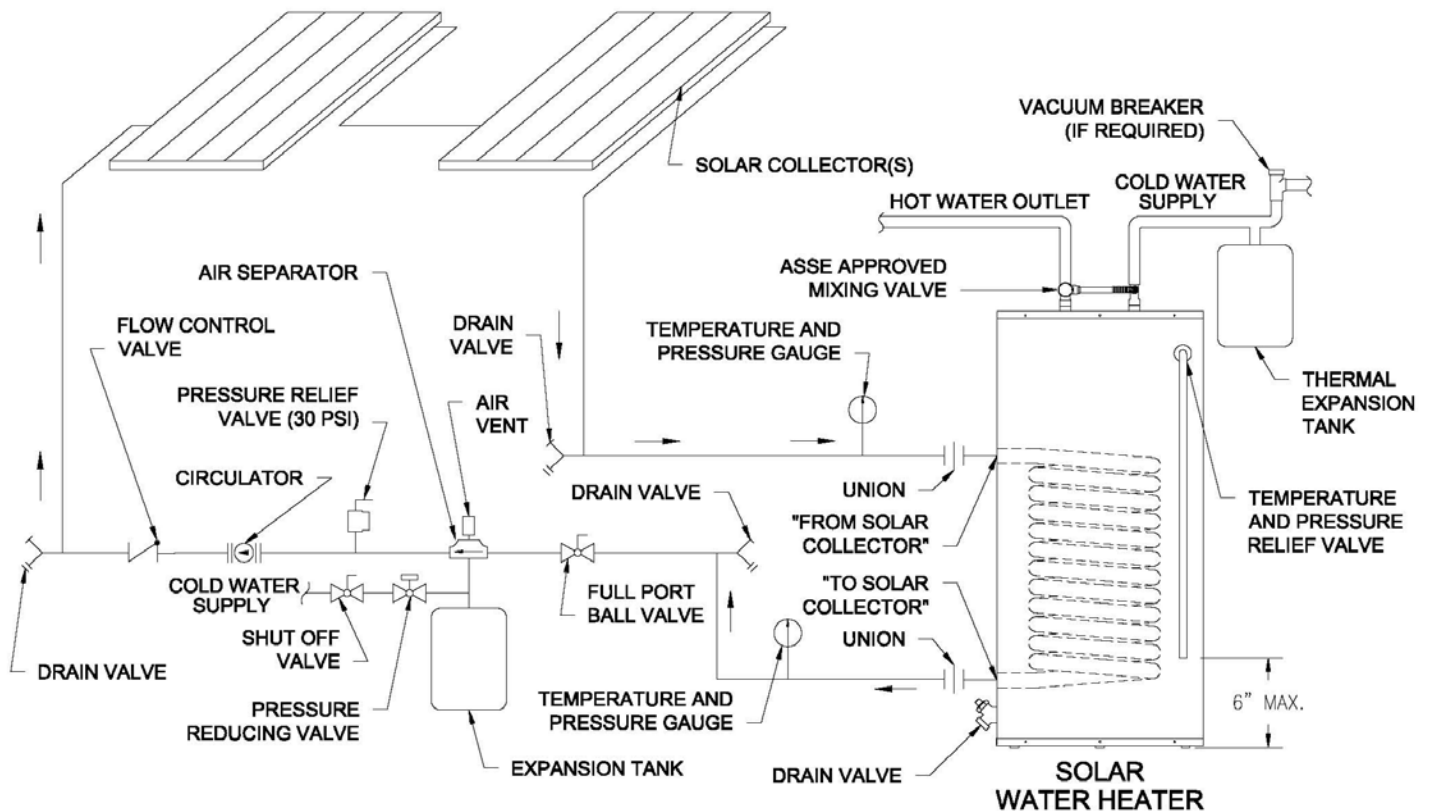

Figure 3 – Solar Collector Piping in Closed-loop Installation
1. For a closed loop solar heating system, refer to Figure 3. The solar water heater connection labeled "FROM SOLAR COLLECTOR" should be piped to the solar collector supply piping. Mount the circulator making sure the flow arrow points toward the water heater. The use of shut-off valves and unions are recommended for future service convenience. The use of an air separator and vent is recommended to eliminate air in the system. Pipe and fittings between the solar collector and solar water heater must be 3/4" diameter or larger.